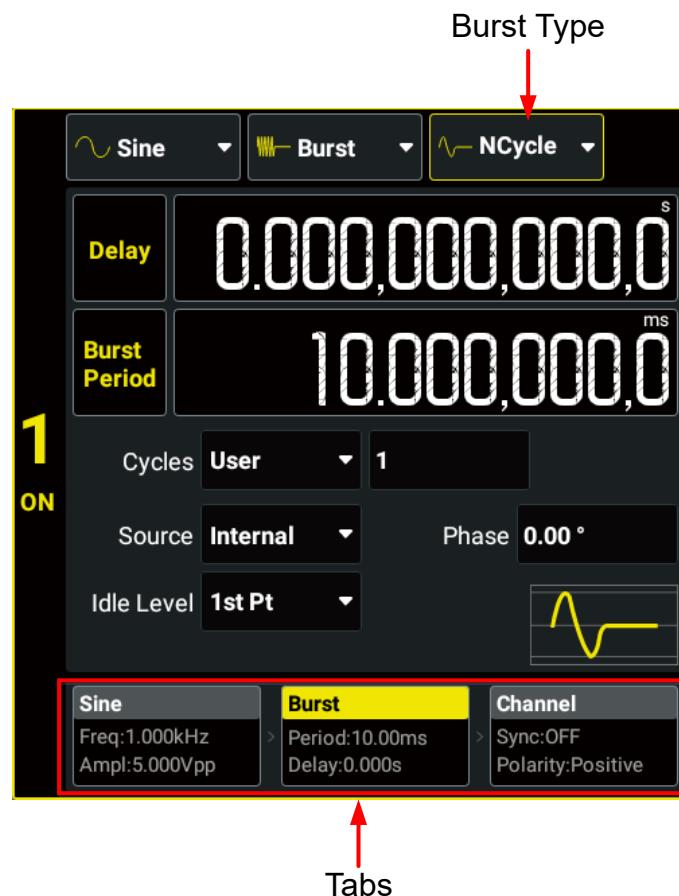

Figure 8.1 Burst Setting Interface
DG800 Pro can output two types of bursts: N-Cycle Burst (default) and Gated Burst. In the Burst Setting Interface (Figure 8.1), click or tap the "Burst Type" drop-down button to select "NCycle" or "Gated". The table below illustrates the trigger sources and waveform parameters available for the two burst types.
- **Manual:** Manual trigger is only available for N-Cycle Burst mode. When manual trigger is selected, click or tap the manual trigger key  in **Figure 8.1** interface or press the front-panel  key to initiate a burst output immediately. If the output of the corresponding channel is not enabled, the trigger will be ignored.